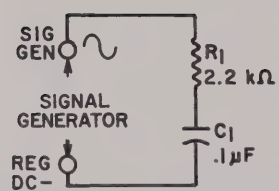

FIGURE 3-1
1. Construct the circuit shown in Figure 3-1. Be sure to use the audio generator sinewave output. Leave the ADJUST VOLTAGE control set fully counterclockwise since the low voltage supply is not used in this experiment.
5. B - HOW CAN THE POWER FACTOR OF THE CIRCUIT SHOWN IN FIGURE 3-1 BE MADE EQUAL TO 1?